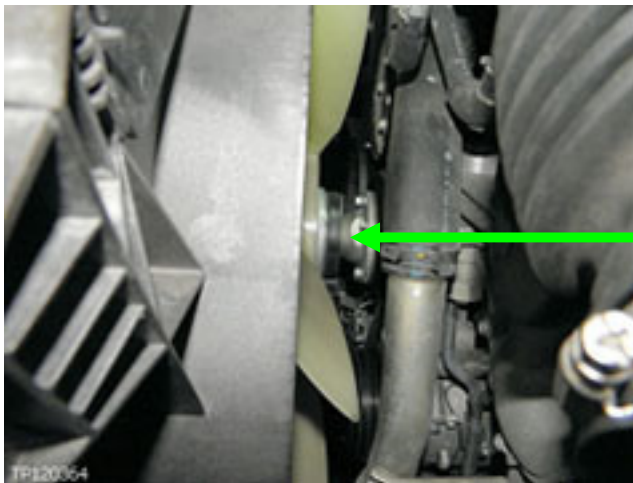

Figure 12
6. If the fan speed will not increase (step 4) or decrease (step 5) using Active Test, replace the fan coupling shown in Figures 12 and 13.